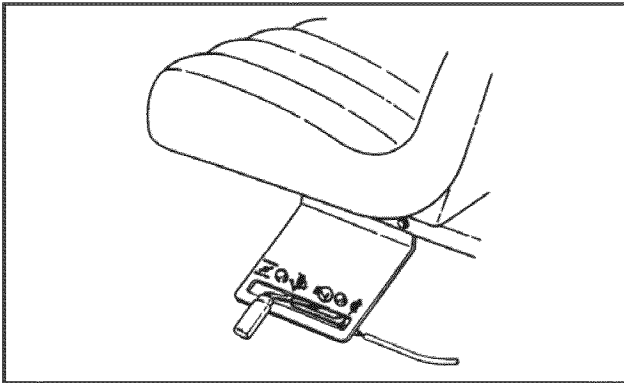

FIGURE 7
4. Move the engine speed control (Figure 7) to the CHOKE position to start a cold engine.